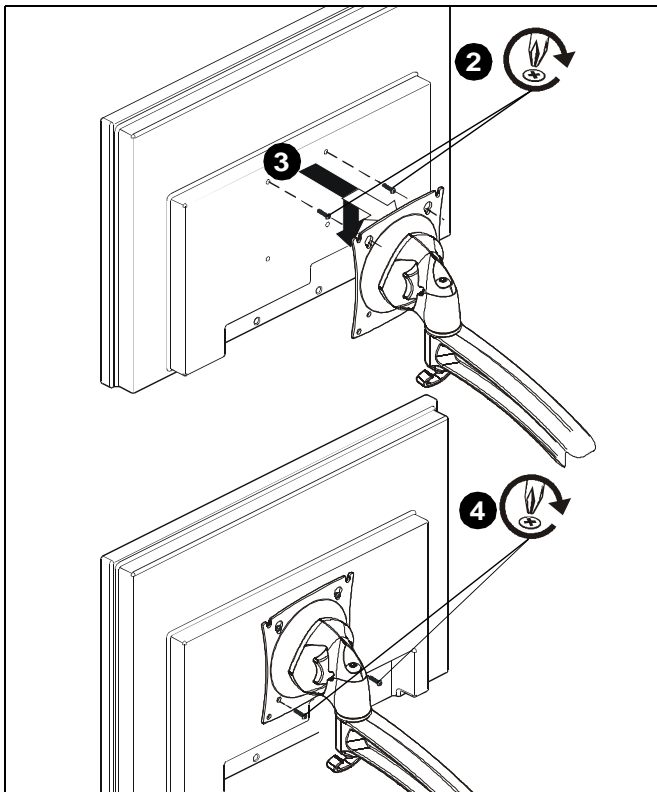

Figure 7
1. Ensure faceplate is able to swivel and tilt easily, yet still be tight enough to hold display in desired position. Adjust as required before proceeding. See "ADJUSTMENT" for detail. (See Figure 7)
2. Using Phillips screwdriver, carefully install two M4x12mm screws (B) into the *upper* mounting holes on the display. Thread screws completely into display, then back out 3 complete turns. (See Figure 7)
3. Pick up and align display so that screws (B) (installed on the back of the display in the previous step) fit into the mounting holes on the faceplate. Rotate the bracket as required. Lower the display firmly into place. (See Figure 7)
4. Using Phillips screwdriver, install two remaining M4x14mm Phillips screws (B) through the *lower* mounting holes in faceplate into the display. (See Figure 7)
5. Tighten all four screws (B). Do not overtighten!